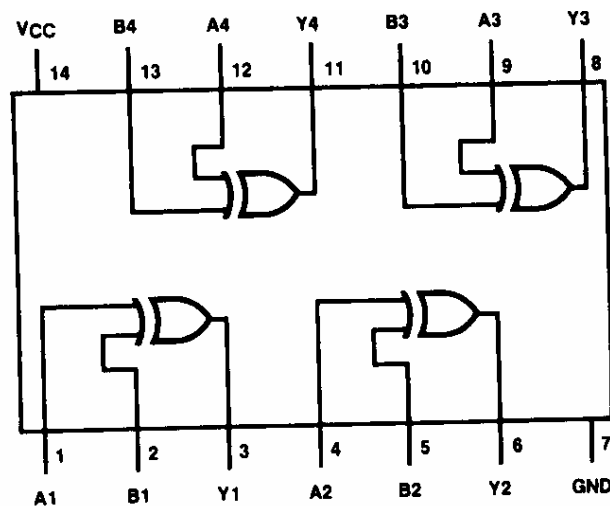
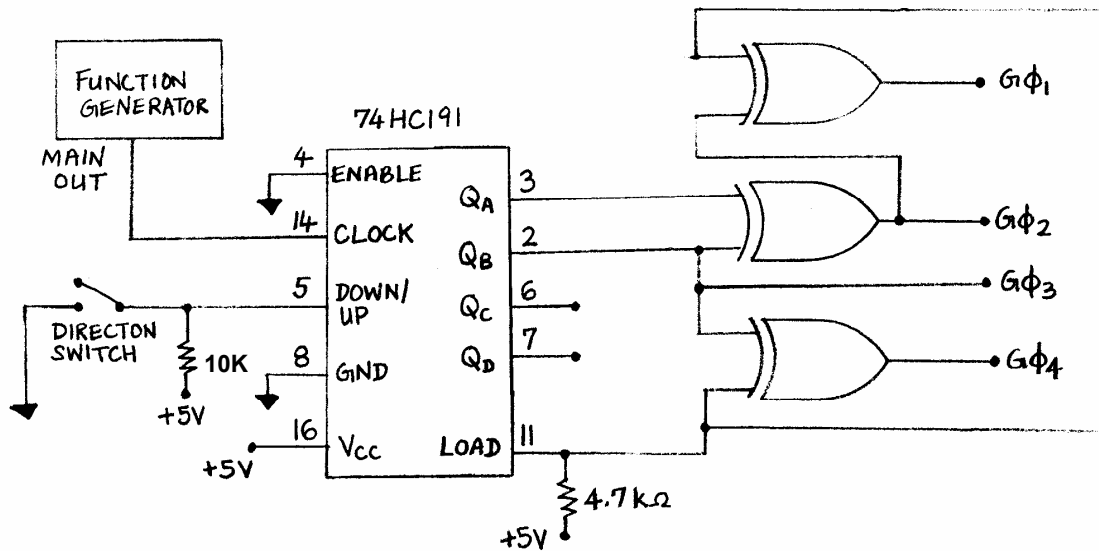

Figure 7: Connection diagram for 74HC86 Exclusive OR chip
Figure 8: Unipolar stepper motor full-step drive circuit
In this experiment, you will use a function generator and an analog drive circuit to control the rate of rotation of a unipolar stepper motor in full-step mode. Your analog drive circuit will consist of a binary counter chip and an exclusive OR (XOR) gate chip. For this laboratory, the XOR gate chip we will use is the **74HC86 Quad 2-Input Exclusive OR Gate** manufactured by *National Semiconductor Corporation*. This XOR gate chip has four XOR gates (Figure 7), but you will only need to use three of them for this Laboratory.
- Build\* and connect the circuits shown in Figure 8. Don't forget to provide power ( $V_{CC} = +5V$ ) and ground (GND) to your XOR gate chip.
\* Hint: before building the circuit, refer to Figure 7 and select appropriate pins on your XOR chip to implement the logic circuit shown in Figure 8. Write down those pin numbers on Figure 8.
5. Redraw the analog drive circuit shown in Figure 8, but include the pin numbers you used for the XOR gate chip.